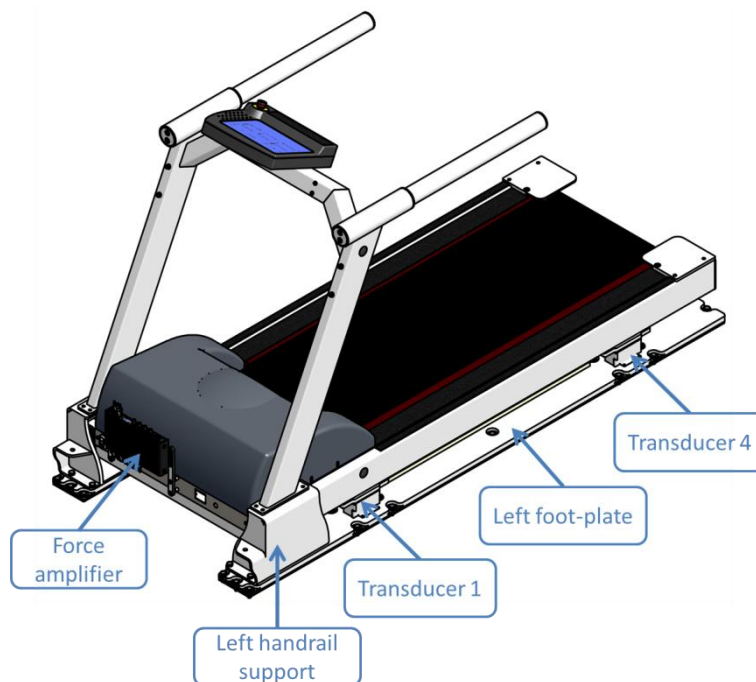

Figure 5. gaitway-3D instrumentation components.
- 1) The left and right treadmill supports that each includes two force transducers and a handrail-support fixed on a foot-plate anchored to the floor (Figure 5).
The force amplifier is composed of a powder coated stainless steel enclosure with connectors on the top and bottom panels. The force amplifier is mounted on two brackets located in front of the treadmill motor compartment (see Figure 5). Several versions of the gateway-3D amplifier are supported (versions C, D and E). The amplifier interface connectors are described in next sections. Standard PVC or PUR jacket cables are used for interconnection between the amplifier and parts of the gateway-3D instrumentation.